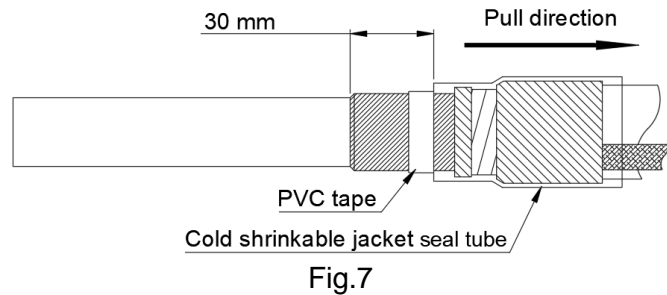

Fig.7
- Mark semi-conductive shield for 30mm on the PVC tape as shown in Fig.7.